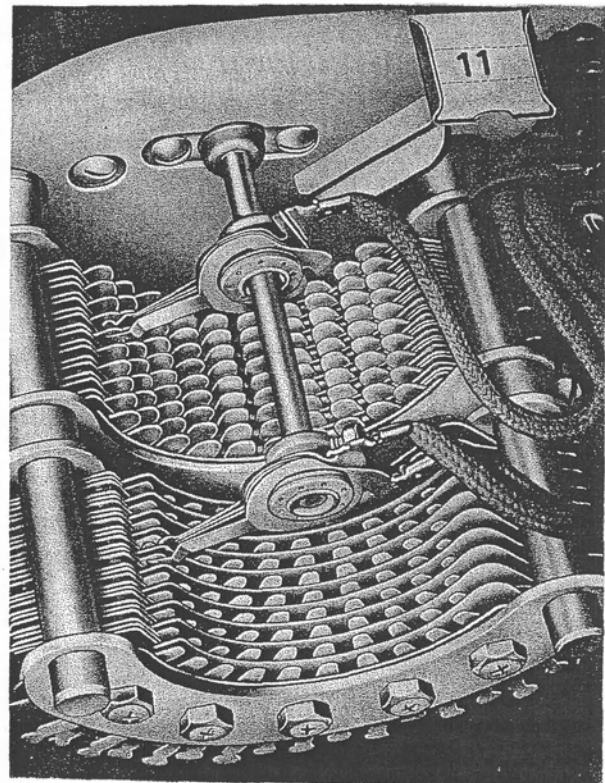

Figure 1. Control bank and line bank
A control bank is made up of one hundred terminals or contacts arranged in ten levels with ten terminals per level. Each of these terminals represents a control lead. The contacts of the control bank are constructed so the wipers will engage the succeeding set of terminals prior to leaving the present set, and are known as bridging contacts. Figure 1 shows a control bank (upper) and a line bank (lower) with the associated wipers. In cases where a switch has an extra control (EC) lead the control bank of the switch has two hundred terminals arranged in the same manner as a line bank.